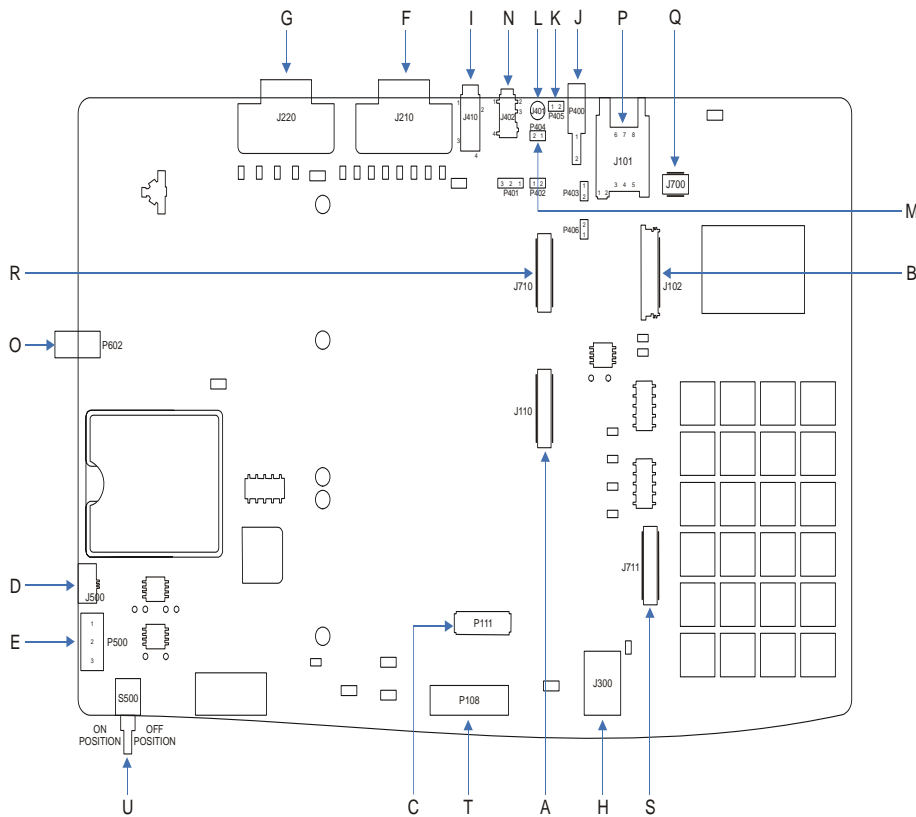

Figure 7. Developer Board
7. Connect the power supply provided in the kit to the Developer Board power connector (J500; D in Figure 7).
To power-up the Developer Board, switch the power switch (U in Figure 7) into the ON position. This action turns on some of the Developer Board LEDs and supplies voltage to the c18 module. Although at this point the Developer Board is on, the c18 module remains off and the LCD remains blank.
This section describes the connectors used on the Developer Board. Figure 7 below shows the location of connectors on the Developer Board:
The J110 connector (A in Figure 7) is a full-featured 70-pin interface connector. c18 modules with a 70-pin connector should be plugged directly into the J110 connector. Use the nuts provided in the Developer’s Kit to mechanically secure the c18 module. Alternatively, the c18 module can be connected to the Developer Board using the 70-lead flex cable provided with the kit (Motorola part number 0187506V08 or 0187506V29), for easy access to the bottom side of the c18 module.
The J102 connector (B in Figure 7) is a 36-pin ZIF interface connector. Connect a c18 module with a 36-pin ZIF connector to the J102 connector on the Developer Board using a 5cm 36-lead flex cable provided with the kit (Motorola part number 3086229J10). If preferred, a longer 30cm 36-lead flex cable can be used. This 30cm cable must be purchased separately (Motorola part number 3086229J09). When the c18 is attached to the Developer Board using the 36-pin connector, a supplementary connector (J710; R in Figure 7) must be used in order to operate the keypad and LCD.
The P111 connector (C in Figure 7) is a 28-pin DIN interface connector. Plug a c18 module with a 28-pin DIN connector into the J102 connector (B in Figure 7) on the Developer Board. When the c18 is attached to the Developer Board using the 28-pin connector, a supplementary connector (J711; S in Figure 7) must be used in order to operate the keypad and LCD.
The J500 power supply connector (D in Figure 7) is intended for use with a PSM4716A power supply (included in the Developer’s Kit).
The P500 connector (E in Figure 7) is a power supply connector intended for use with laboratory power supplies. The power supply should be capable of providing 4.5V DC and a continuous current of at least 1.5 A. Protection circuitry generates a voltage drop of approximately 0.5 V at full load (maximum c18 power), thereby providing the c18 module with a nominal 4.0 V.
The S500 switch (U in Figure 7) serves as the Developer's Kit ON/OFF switch. In its OFF position, supply voltage to the c18 module and all Developer Board circuitry is disconnected. In the ON position, voltage supply is routed to the Developer Board circuitry and the c18 module.
In order to avoid damage to the kit and/or power supplies, do not apply both power supply connectors simultaneously. If power for an active GPS antenna is needed, use the P500 connector (E in Figure 7) only.
The J300 connector (H in Figure 7) provides a USB interface to the c18 module. Signals from this connector are directly routed to the c18 interface connector.
The J210 connector (F in Figure 7) is an RS232 DB9 connector (UART1). This connector provides the RS232 interface for the c18 module's UART1. It has eight communications signals. c18 UART1 signals from the c18 interface connector are routed to the RS232 transceiver on the Developer Board. The transceiver converts UART LV TTL to RS232 signals.
The J220 connector (G in Figure 7) is an RS232 DB9 connector (UART2). This connector provides the RS232 interface for the c18 module's UART2. It has four communication signals. c18 UART2 signals from the c18 interface connector are routed to the RS232 transceiver on the Developer Board. The transceiver converts UART LV TTL to RS232 signals.
The J410 connector (I in Figure 7) is a connector that provides single-ended auxiliary audio output. c18 auxiliary output is routed through a capacitor to remove its DC bias. As a result, the audio signal on this interface is the same as that at the c18 output.
The P400 connector (J in Figure 7) is a connector that provides single-ended auxiliary audio input.